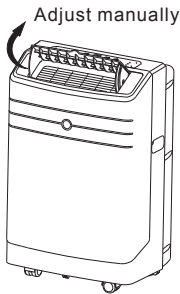

Fig.5
- **Adjust the air flow direction manually (Fig.5):**